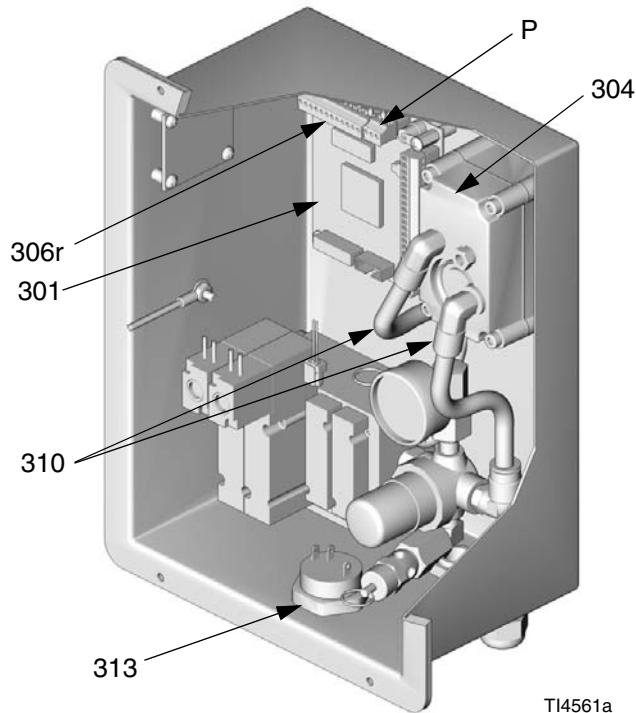

FIG. 5
2. Disconnect power supply wires (P). FIG. 5.
2. Remove two screws (309) from the back of the control box.
3. Disconnect supply and exhaust air lines (310). FIG. 5, page 20.
3. Unscrew alarm (313) and replace. FIG. 5, page 20.